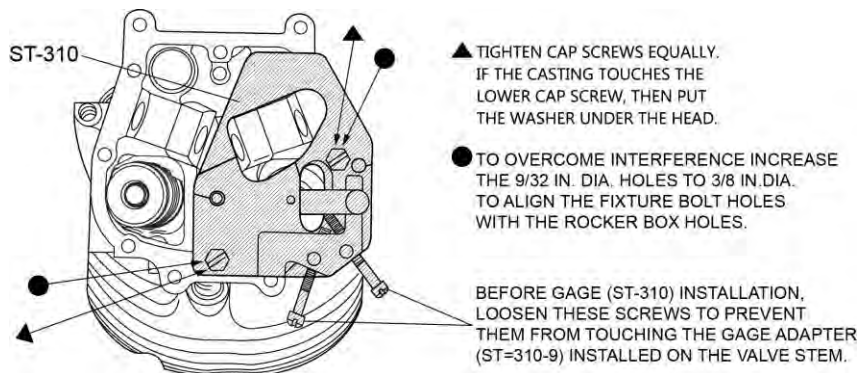
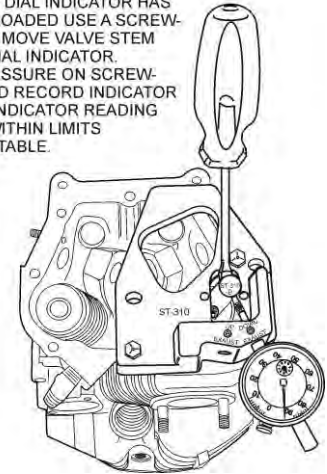

Figure 6
Figure 9
- (10) Loosen the screws identified in Figure 6 to prevent the screws from touching the Gage Adapter (ST-310-9) when installed on the valve stem.
- (11) Install the Gage (ST-310) on the valve on the cylinder head as shown in Figure 6.
- (12) Tighten the cap screws (identified in Figure 6) equally. If the casting touches the lower cap screw, put the washer under the head.
- (13) Measure stem movements by moving the valve stem along the valve guide wear line (inside diameter of the valve guide, parallel to the centerline of the valve rocker arm).
- (20) Insert the screwdriver between the Gage (ST-310) and valve spring on the opposite side and push the valve spring toward the dial indicator as shown in Figure 9.
- (21) Relax the screwdriver and record the reading on the dial indicator. For the exhaust valve guide to be acceptable, the measurement must be within the specified limits in latest revision of the ***Service Table of Limits - SSP-1776***.
- (22) If the exhaust valve guide is out of tolerance either replace the cylinder or send the cylinder to an authorized vendor who can replace the valve guide.
- (23) Move the piston to near its top end of travel.
- (24) Remove the Gage Adapter (ST-310-9) from the valve stem.
- (25) Loosen each cap screw in the Gage (ST-310) (Figure 6) in small equal increments to decrease pressure on the valve spring slowly and equally.
- (26) Remove the Gage (ST-310) from the cylinder.
- (27) Repeat this exhaust valve and guide inspection for all cylinders.
- (28) Record all of the results in the 1000-Hour Inspection Checklist for IO-390-C Series engines (Chapter 05-20).